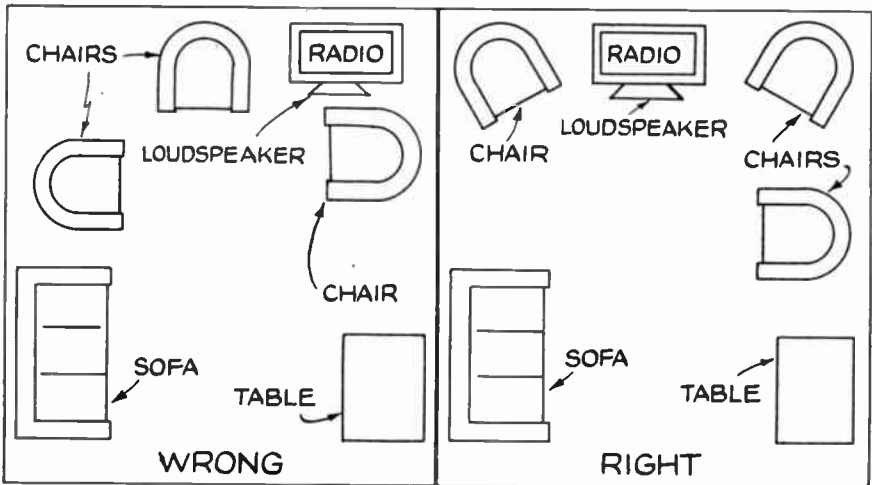

Fig. 61
(A) The best thing to do is to follow the manufacturer's instructions exactly. Generally speaking, a 50-foot antenna is sufficient. Some different types are given in the chapter on antennas, which also contains information on grounds. Place the set so that there is a direct line from its speaker to the parts of the room where people sit. In other words, do not hide it behind chairs or other furniture; doing so muffles the high notes. See Fig. 61.